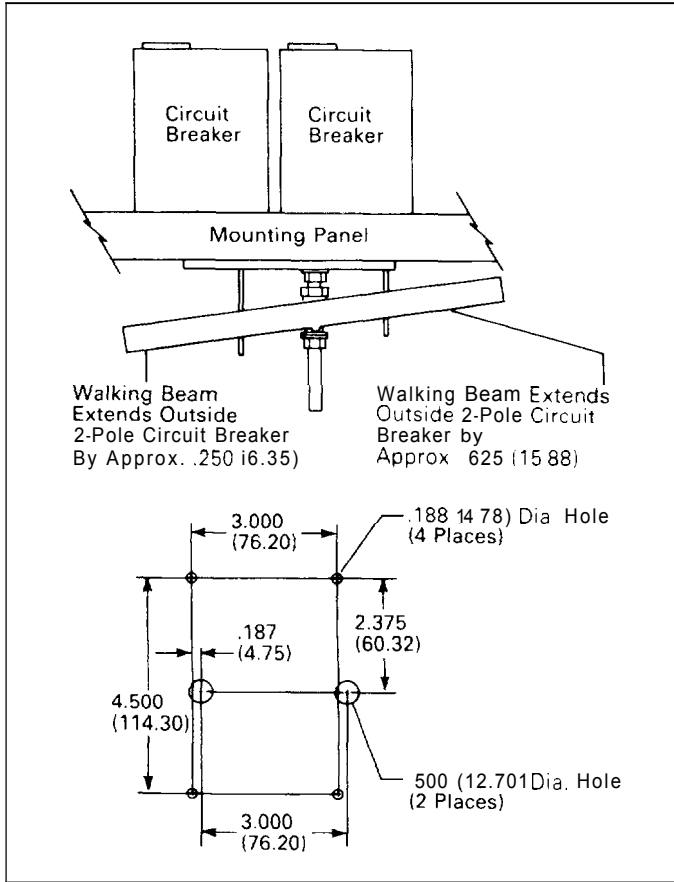

Fig. 2-1. 2-Pole Circuit Breaker Walking Beam Overlap, Mounting Panel Hole Sizes, and Dimensions
- 2-1. Pre-drill circuit breaker mounting panel. Figs. 2-1 (2-pole), 2-2 (3-pole), and 2-3 (4-pole) show mounting panel hole sizes and dimensions for F-frame Series C circuit breaker configurations. Dimensions are in inches and (millimeters).